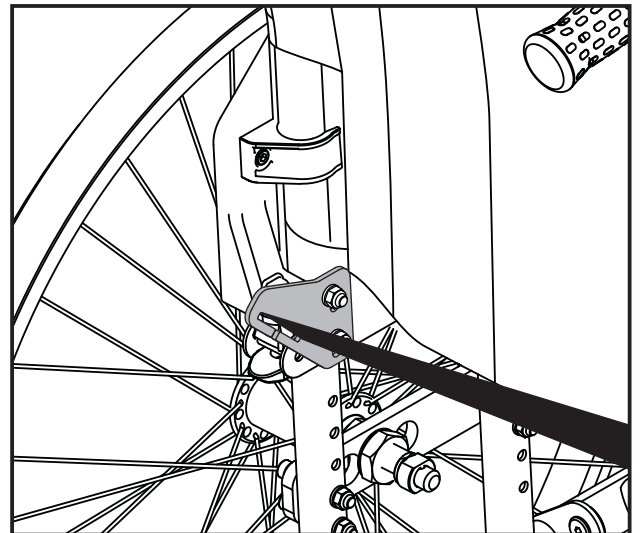

Figure 34
- Locate the fastening brackets as shown in figure 34. Attach them with the screws you removed, or use the screws that came with the fastening brackets